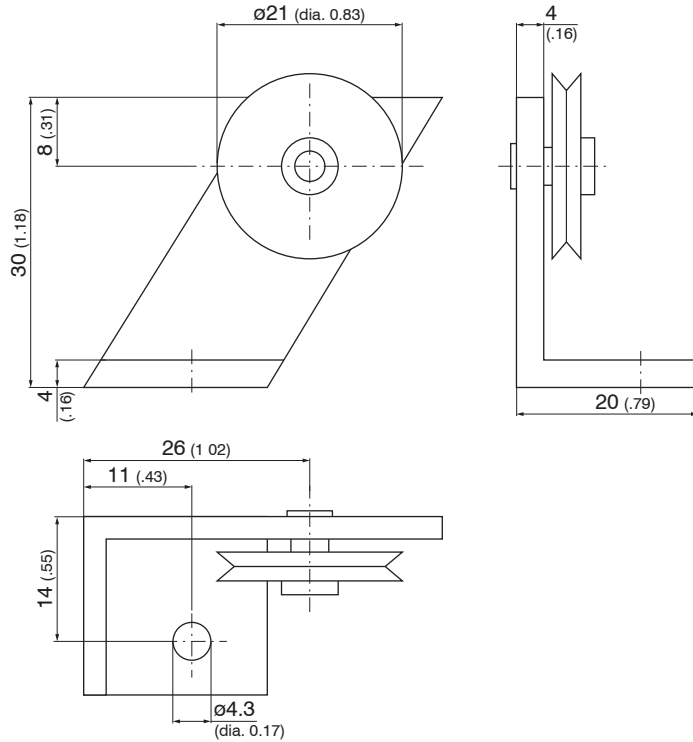

Fig. 14 Guide pulley TR3-WPS fix with mounting socket, dimensions in mm (inches), not to scale
- TR3-WPS Guide pulley fix with mounting socket, see Fig. 14